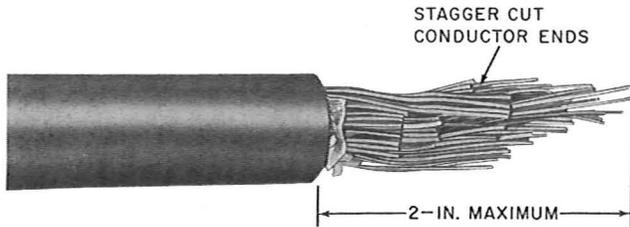

Fig. 5—Conductor Ends Cleared
- (c) Cut the conductors no more than 2 inches beyond the end of the sheath. Cut to different lengths (Fig. 5) to reduce the possibility of shorts or crosses. Use sharp shears, cutting a few pairs at a time to ensure squarely cut ends.